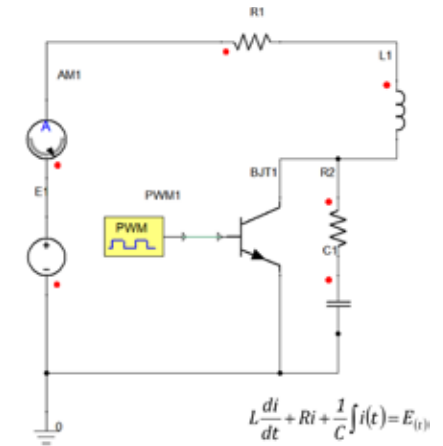

Fig. 3. The electric drive circuit of a solenoid valve.
accurately. The magnetic simulation model generated is added as a co-simulation block within the Ansys Simpler system simulation program, as shown in Fig. 3. This method makes it possible to predict magnetic forces with great accuracy because the magnetic FEM simulation can be conducted concurrently with the system simulation.
The drive circuit of the solenoid valve is simply composed of a power transistor (TR) and a surge protection circuit. It can be simplified as shown in Fig. 3, and the system simulation model can consist of a single Bipolar Junction Transistor (BJT), a resistor-inductor (RL) surge protection circuit, and a pulse-width modulation (PWM) block for on/off control.